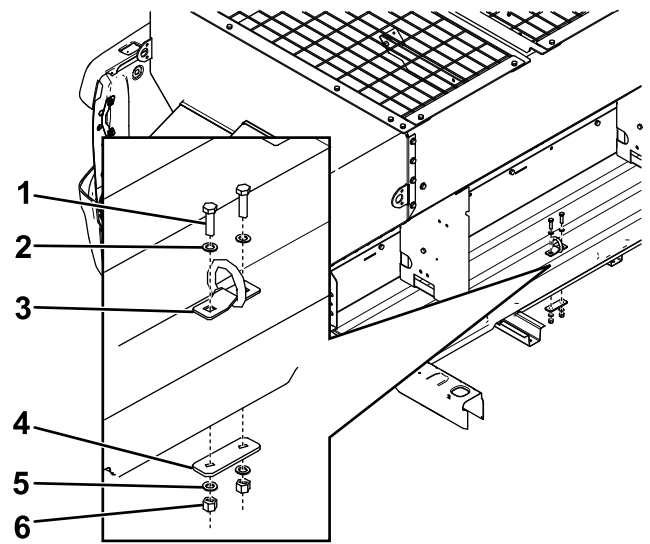

**Figure 8**
1. Mark and drill the holes (7/16 inch) for the D-rings starting with the D-rings closest to the cab, as shown in Figure 8. The cab side D-rings will be positioned inside the spacer.